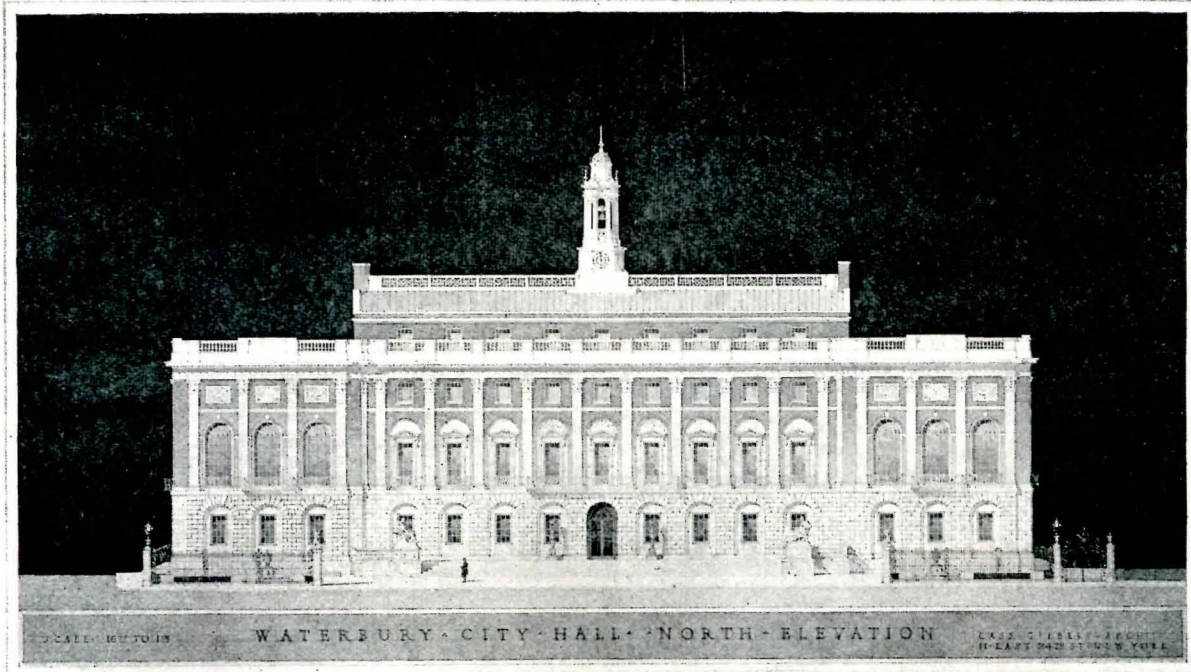

Figure 32. Competition Design for City Hall, Waterbury, Conn. Cass Gilbert, Architect.
*Figure 33. Detail of Figure 32 at Actual Size of the Original Drawing. Competition Design for The Waterbury City Hall, Cass Gilbert Architect. Rendered by Thomas R. Johnson.*
imagination of a very able artist at work. The rendered area of the drawing is  $8\frac{3}{4}$  in. x 23 in. The drawing of the Waterbury City Hall (Figures 32 and 33) is at least equally fine in technique. Brick joints, sash bars, iron balconies, and the gates and railing shown against the dark background are, however, put in with Chinese white. The idea of representing a small model of the building rather than the building itself is the convention adopted. Note that the window openings are graded by stories from a dark, in the ground story, that is much lighter than the background but darker than the brickwork, to a light value in the top story that is lighter than the lightest part of the brickwork. The silhouette of the design is firmly marked by placing the lightest or "whitest" parts against the dark background. The background is graded from the ground line upwards, but the gradation counts but little in the effect. The brickwork is graded downward from the top story and meets the light tone of the stonework of the lowest story without the usual "jar" felt in most representations of red brick and light stone combinations. The *piquage*, in white, is maintained all over the surface but with such delicacy as to require the closest scrutiny to detect it. The rendered area of the drawing is only  $9\frac{1}{2}$  in. x 17 in.